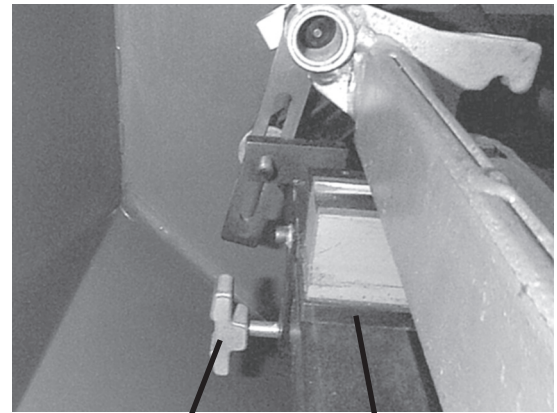

FIG. 22
1. Pull both gauge tips forward and rotate to lock into position. Loosen the magnet knob on the right side magnet assembly. See FIG. 22. Set the bedknife / bedbar assembly to be ground on the magnets. Move the right side magnet assembly until the alignment gauge tips are at both ends of the bedknife. Tighten the right side magnet lock knob to secure the magnet in place.